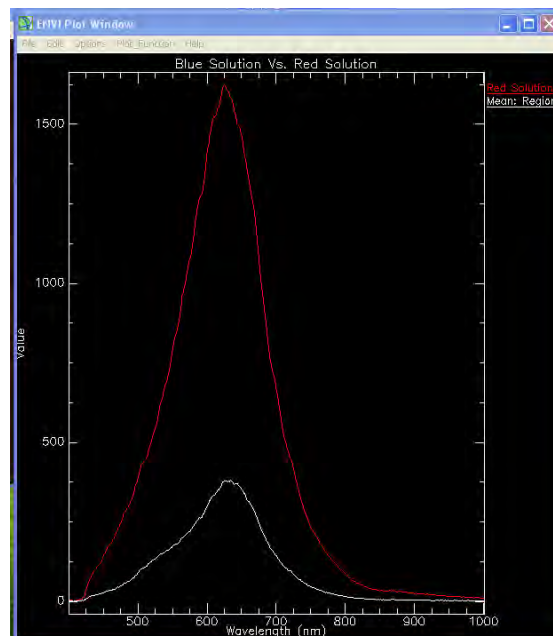

Figure 47. Spectra to be normalized
1. Using the ENVI Plot Window that has the spectra to be normalized open (see Figure 47)